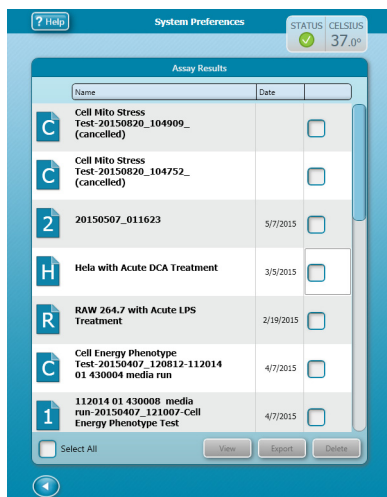

Figure 17. Assay results view
- 1 Assay Results Menu:** Individual Assay Results can be viewed by clicking the small checkbox next to the result file to view and clicking the **View** button. See Figure 17.